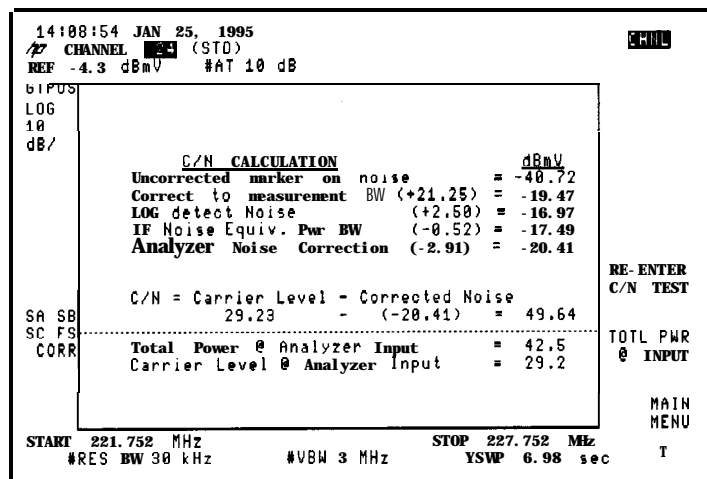

Figure 2-13. Carrier-to-Noise, More Information
7. Pressing **MORE INFO** displays the carrier-to-noise calculation. See Figure 2-13. Pressing RE-ENTER TEST restarts the test from the beginning. Pressing TTL PWR @ INPUT calculates the total input power making input level adjustments more convenient. Pressing MAIN MENU exits the test.